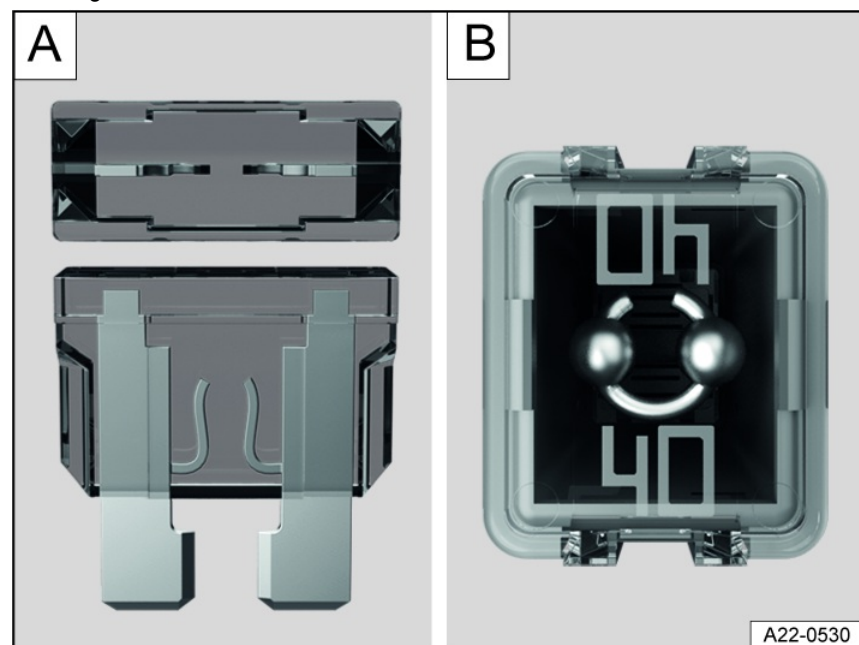

Fig. 144 Blown fuse (general example).
- A blown flat connector fuse (ATO®, MINI®) has metal strips that have burned through, which you can see through the transparent housing from above and from the side [fig. 144 \[A\]](#).
- A blown block fuse (JCASE®) is recognizable by the melted metal strip seen through the transparent housing from above [fig. 144 \[B\]](#).